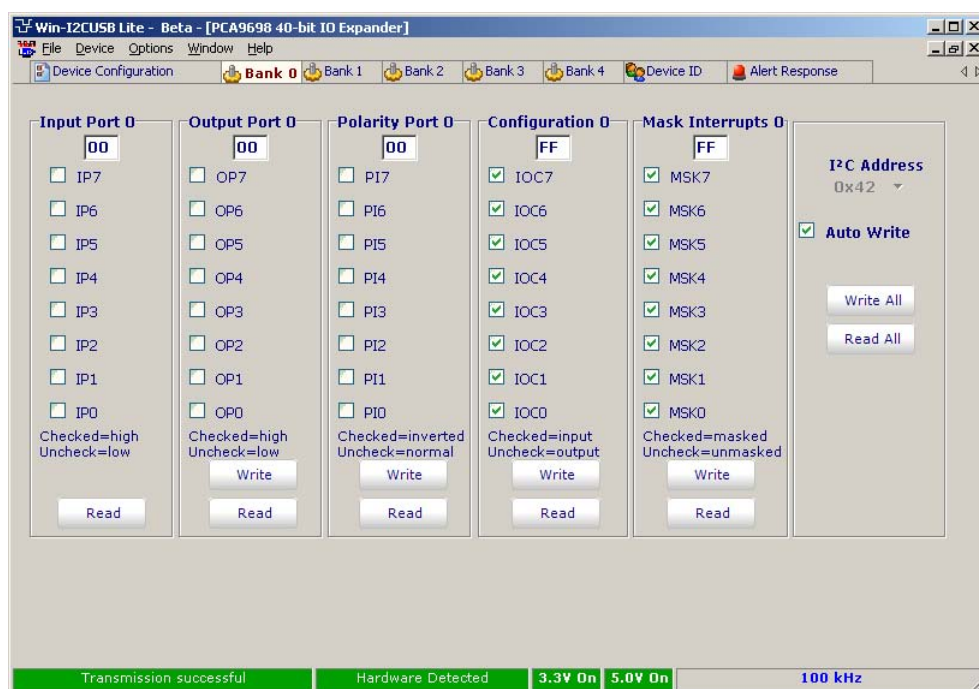

Fig 5. Bank0 configuration
7. Select the Bank0 tab. The default configuration is shown as in Figure 5.